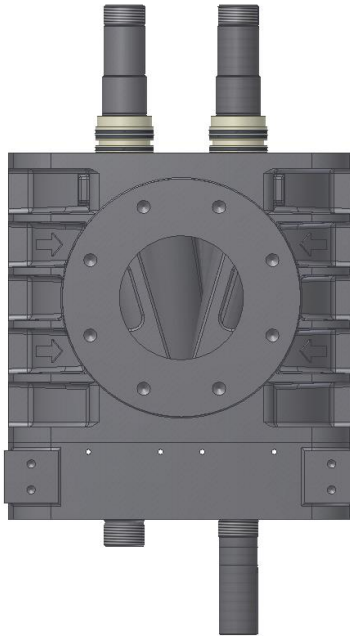

Figure 7-6 – ROTOR INSTALLATION
10. Repeat steps 7 through 9 for gear-end bearing housing (3).
11. Attach mounting bracket to inlet port of air cylinder (1) and mount air cylinder on trunnion.
14. Install two dowel pins (34) into drive-end of air cylinder.
16. Fasten drive-end bearing housing to air cylinder using two socket head bolts (29) in counter bored holes in bearing housing. Tighten bolts.
19. Thread 3/4-10 eye bolts into the appropriate end of rotor shaft. Using a hoist, carefully install both rotors into air cylinder ensuring piston rings do not catch on insert. Verify long end of drive rotor extends through drive-end bearing housing and is in correct bore. Ensure rotation of each rotor matches arrows on outside of air cylinder. Ensure rotor lobe helix angles match triangular shape of discharge port. Reference FIGURE 7-6.